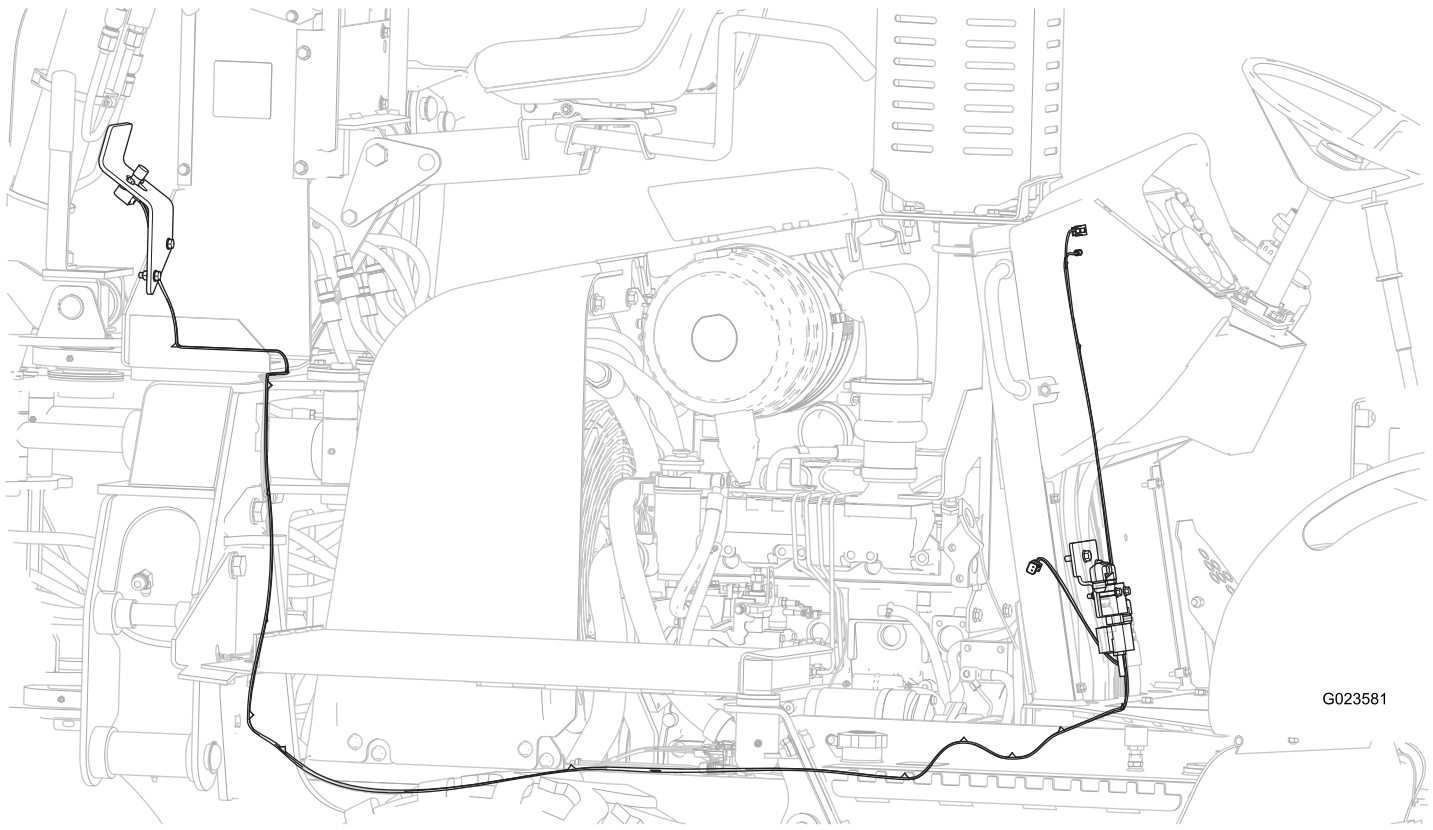

Figure 13
3. Route the wires from the switch behind and under the backhoe, along the side of the traction unit, into the engine compartment along with the current wiring harness, and up into the control console of the traction unit as shown in Figure 12 and Figure 13.